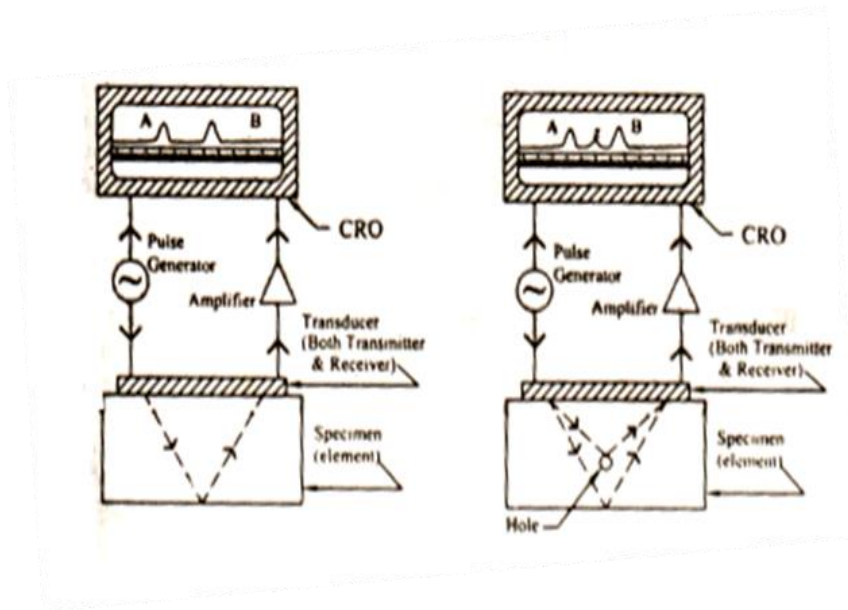

Fig. 1.15
- vi. These reflected signals are amplified and is found to be almost the same as that of the transmitted signals as shown in the figure 1.15 which shows that there is no defect in the specimen.
- viii. These defects give rise to another signal (pulse Z) in between pulses 'A' and 'B'. Similarly if we have many such holes, many Z - pulses will be seen over the screen of CRO as shown in the figure 1.15.